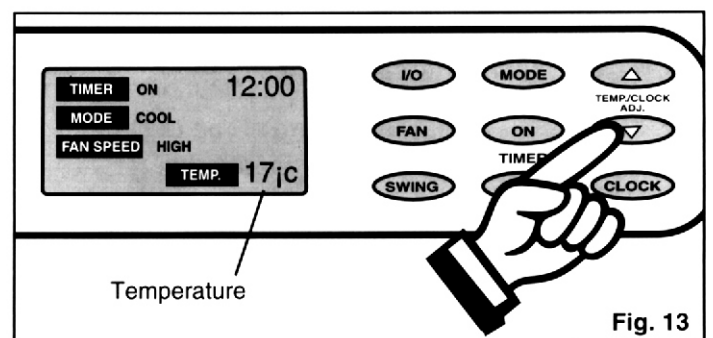

Fig. 13
- 4) Press the appropriate  $\Delta$  or  $\nabla$  key to select a suitable temperature setting. The temperature selected will be indicated in the **LCD (Liquid Crystal Display)** window. Temperature settings are adjustable between  $17^{\circ}\text{C}$  ( $62^{\circ}\text{F}$ ) to  $30^{\circ}\text{C}$  ( $88^{\circ}\text{F}$ ). *Fig. 13.*